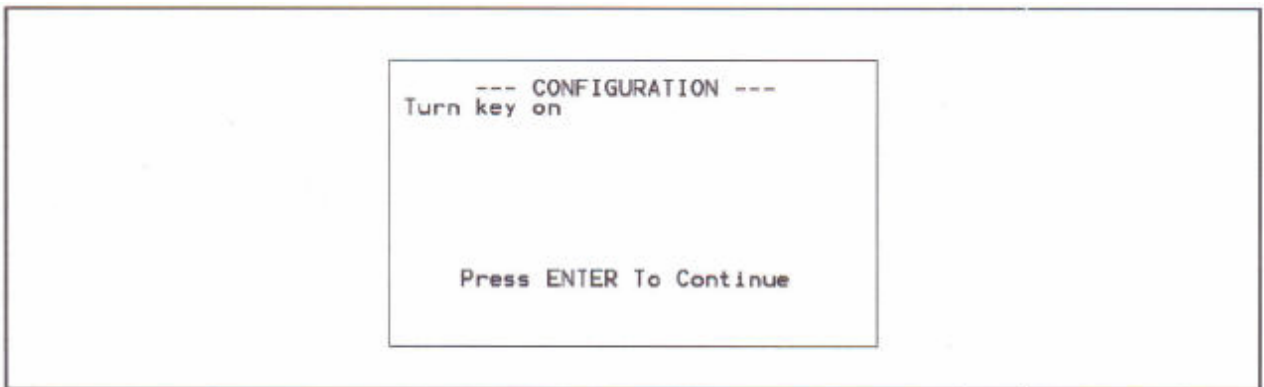

Figure 4. Key ON Screen
4. Switch the ignition ON (figure 4). Verify the operation of the “High Idle” switch. Installation is now complete.